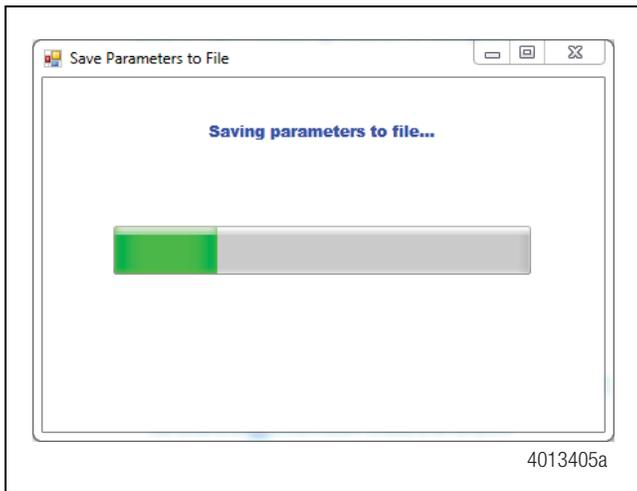

Figure 19
**NOTE:** You will not be able to select "Save Parameters" until the 17-digit VIN is entered. The progress bar in the following window shows that the parameters are being saved. Figure 19.